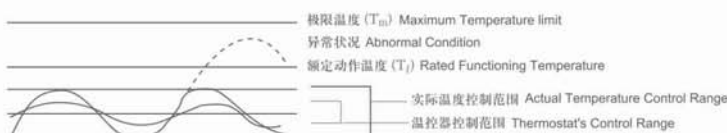

图 1 Fig.1
- 应用产品必须经过测试以确定当出现任何异常状况时都不会使温度保险丝周围温度超过极限温度（Tm），这种状况可能出现在一种称为“余热过冲”的状况下。例如：一个热风机在进风口或出风口堵塞时引起温度升高到 TF，这时温度保险丝断开电路，但是，一个不正确的设计可能会引起装置提前开路和过度的余热过冲可能会损伤保险丝，应用产品须经测试以确定在正常的温度波动状态（如控温器的动作与复位引起的加热器温度波动）下，温度保险丝周围温度在控温器的通断循环中不会达到 Tm。（见图 1）
- The end product should be tested to ensure that potentially abnormal conditions do not exposed the thermal cutoff to the temperature exceeding its Tm. This condition may occur in an "overshoot" situation. For example, an air heater may be subjected to a blocked inlet or outlet condition on attaining its Rated functioning temperature, the thermal cutoff will open. However, an incorrect design may cause the premature opening of the device and excess overshoot may cause shooting or damage to the thermal cutoff. The end product should be tested to ensure that under normal cycling condition (such as cycling of a thermostat), the thermal cutoff never reaches its Tf during the "on" or "off" cycle. (see Fig.1)